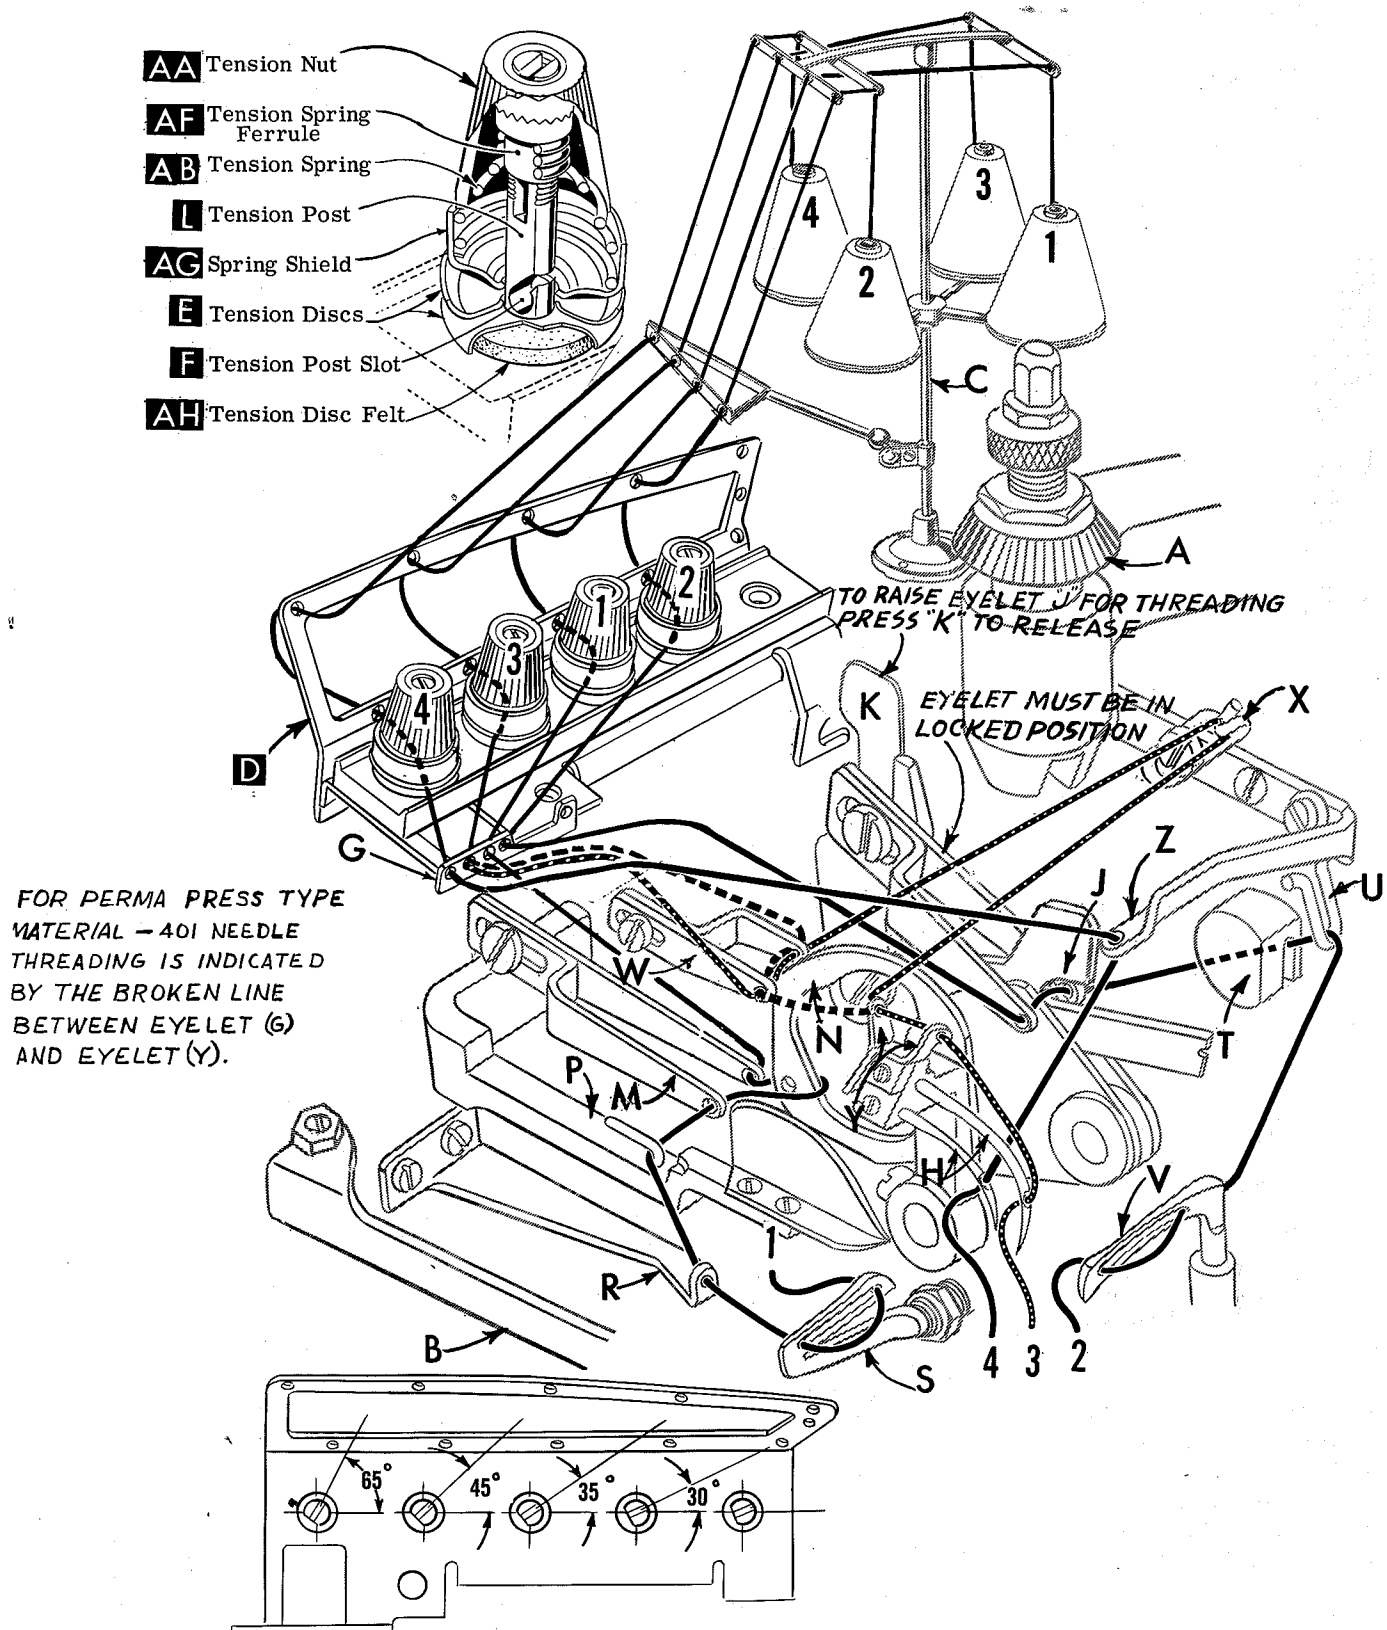
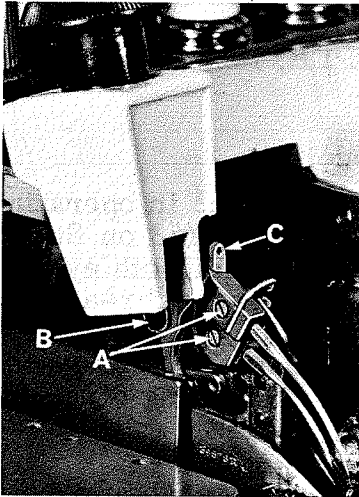
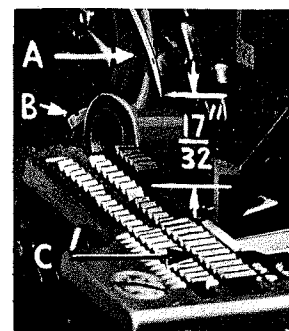

Fig. 1
Fig. 2
Fig. 4
Release pressure on presser foot by turning the presser foot release bushing (A, Fig. 1) and swinging presser arm (B) out of position. Turn handwheel in operating direction (away from operator) until needle holding screws (A, Fig. 2) are just exposed from behind presser spring plunger (B) and accessible to screwdriver. Loosen screw and withdraw needle. When replacing needles observe the position of the flat which is at the left of the shank and be sure the needle is inserted the full depth to the combination eyelet and stop plate (C).
Only parts involved in threading are shown in threading diagrams (Fig. 1 and 1A). Parts are placed in their relative positions for clarity.
The amount of tension on the needle and looper threads is regulated by the knurled tension nuts (AA, Fig. 1). Tension on the threads should be only enough to secure proper stitch formation. Using a postal scale, the measurements are taken with the needles at the top of their stroke and pulled in the direction as indicated. As a start the tensions may be as follows:
Release the pressure on presser arm and swing arm out of position. Insert both needles (Type 158 GJ for the 401 stitch and Type 154 GAS for the overedge stitch) into the left and right holes, respectively, of the needle driving arm (A, Fig. 4), so that the butt ends contact the stop plate. Secure needles in this position with clamp screws (A, Fig. 2).
With throat plate assembled in position, the needles should center in the throat plate needle holes. To align the needles, loosen clamp screw (B, Fig. 4) and move needle driving arm to the left or right as required. Gauge No. 21227 CR should be used to set the needle driving arm at the correct height. To use this gauge remove the left needle (401 stitch) and insert the gauge in its place. Be sure gauge seats against the stop plate. Turn the handwheel until needle driving arm is at its lowest position, at this point the gauge should just contact the throat plate. Tighten clamp screw (B, Fig. 4) after correct height has been obtained and needles have been centered in the throat plate needle holes. Remove throat plate.
If gauge No. 21227 CR is not available the correct needle height can be obtained by measuring  $17/32$  inch from the 401 needle point (left needle) to the top of the throat plate, when needle driving arm is at its highest point of travel (Fig. 4).
For convenience the looper may now be threaded as shown in Fig. 1 and as described under paragraph "To Thread 401 Looper". Replace differential feed dog, throat plate, lower knife holder and reset upper knife. Check cutting action with thread.